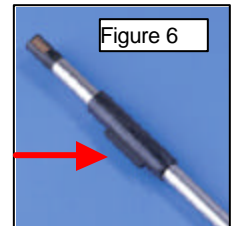

Figure 6
1. Line up the key lock feature on the tip cartridge with the notch on the front of the handpiece. See Figure 6.